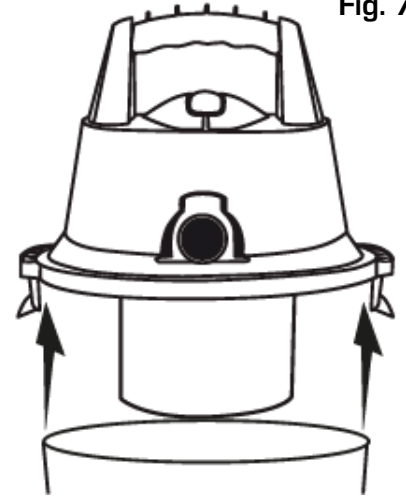

Fig. 7
3. Unlock the side latches and remove the motor head. (Fig. 7)